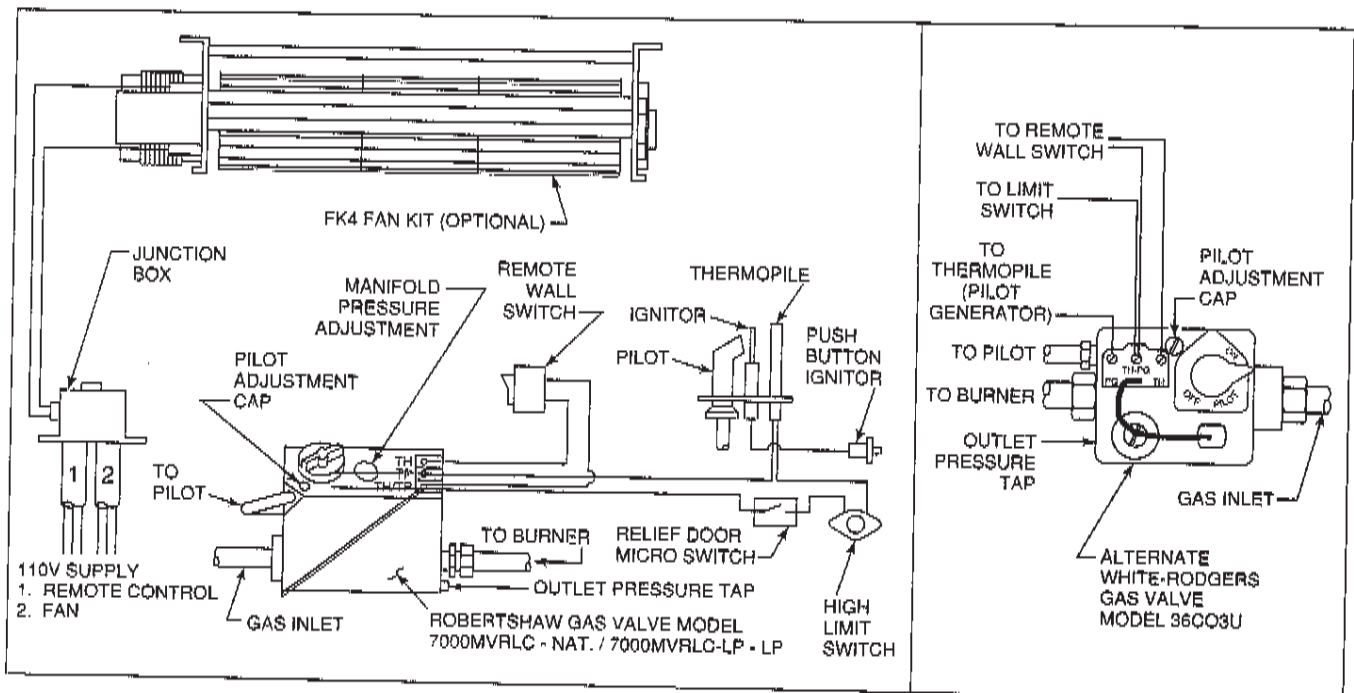

Figure 9B
Remote wall switch hook-up should be installed in a convenient location. Follow Figure 9B for wiring diagram. If an optional FK4 Fan Kit or RC4 Remote Control Kit are to be used, 110 V wiring should be done at this time. (Note: 110V power is not required for ignition.) The appliance must be electrically wired and grounded in accordance with local codes or, in the absence of local codes, with National Electric Code ANSI/NFPA 70-latest edition. Wiring diagrams are provided with these accessories and in Figure 9B. This appliance is not intended for use with a thermostat.
- a. Remove the pilot adjustment cap. See Figure 9B.